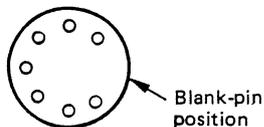

Fig. 4
3. Make sure that the blank-pin portion of pick-up tube positions on the right (viewed from the rear). (Fig. 4)